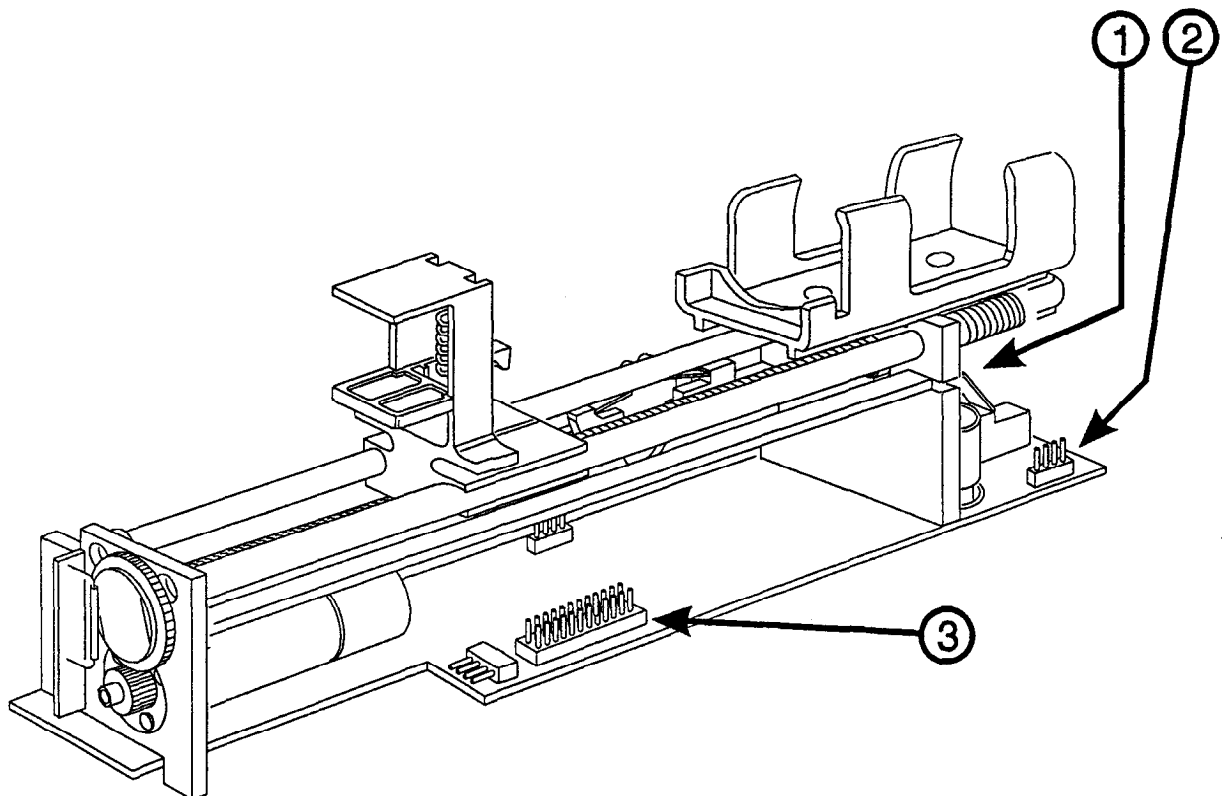

Figure 7-4 Mechanism Assembly (Removed From Case)
2. Locate and remove cable connection to J3 (1). J3 not shown in Figure 7-4, connection is behind the microswitch. Disconnect cable from J1 (2). Connection identifications are also noted on the board.
3. Partially lift the mechanism out of the case and disconnect the ribbon cable at J2 (3).